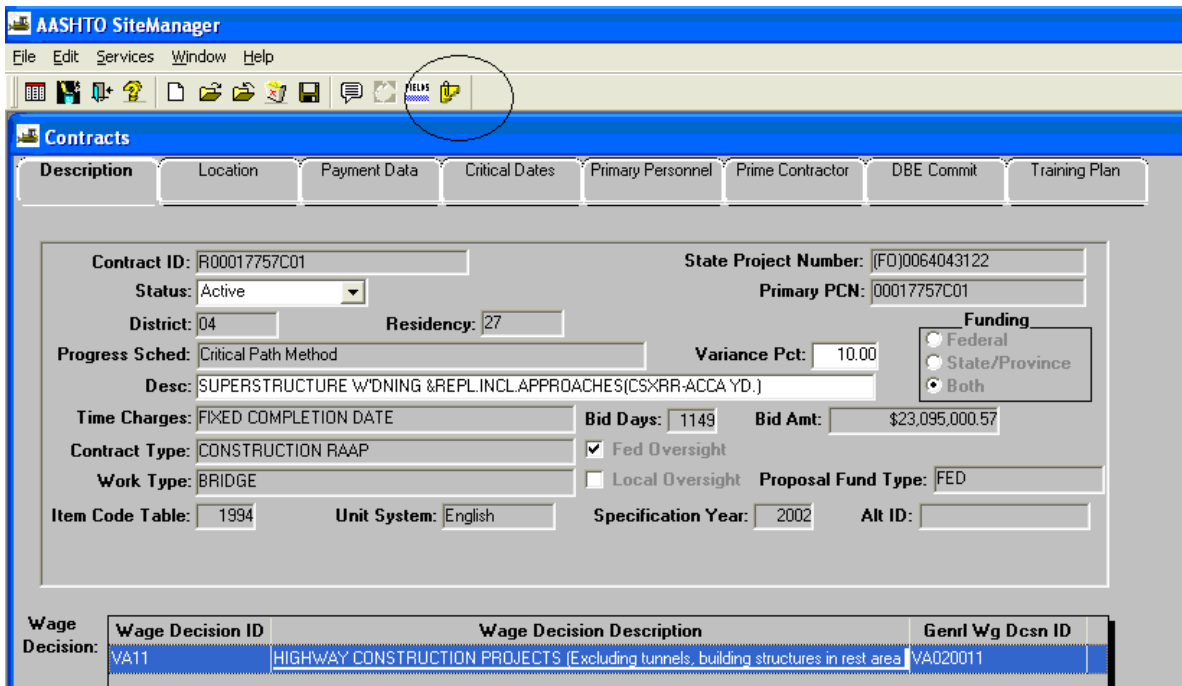

Figure 1
Step 3: Click on Attachment Icon. (Figure 1)